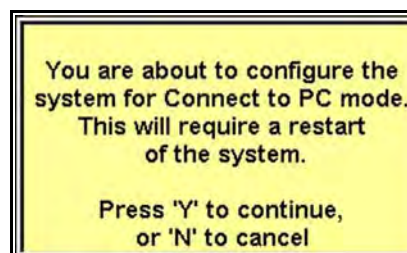

Figure 2-23 Sample Connect to PC message
3. Press **Y** to select and a configuring for Connect to PC message displays (Figure 2-23).